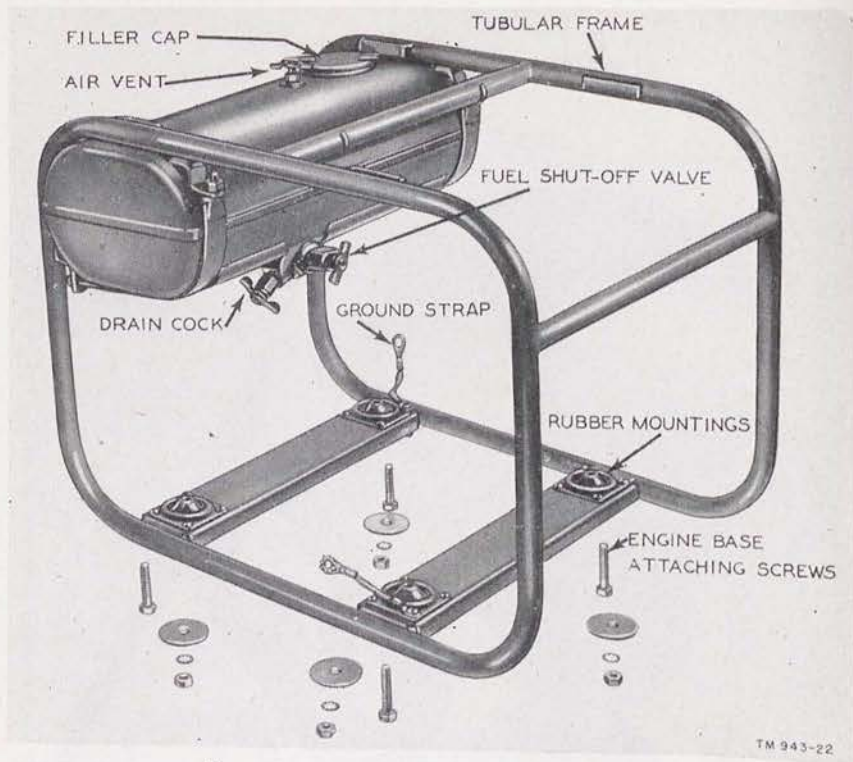

Figure 22. Frame and fuel tank assembly.
- (1) Close the fuel shut-off valve and disconnect the fuel line at the fuel shut-off valve (fig. 22).